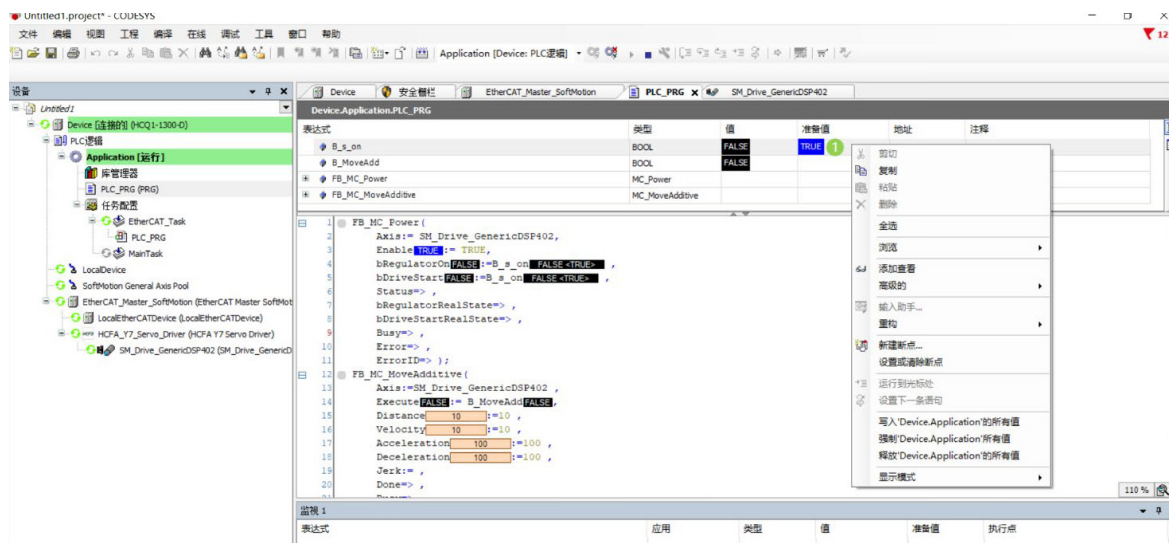

Figure 13-20 Servo motor enabled
2. In the case of safety, please left-click the position ①, and after TRUE appears, select [Write all values of 'Device.Application'] as shown in Figure 13-20, and the servo smotor will be enabled.